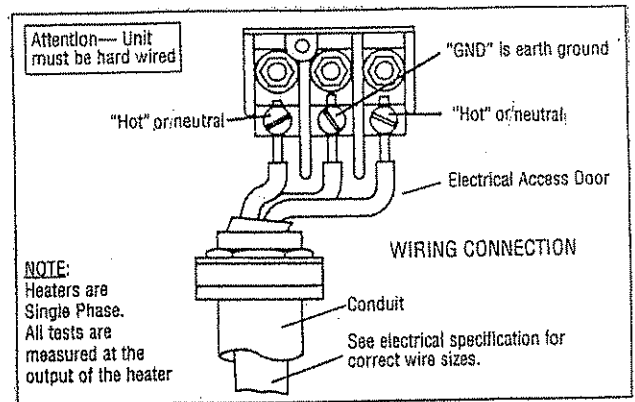

FIGURE 3 Wiring Connection
5. Connect wiring. Attach ground wire to center terminal and hot wires to outer terminals (See Fig. 3)